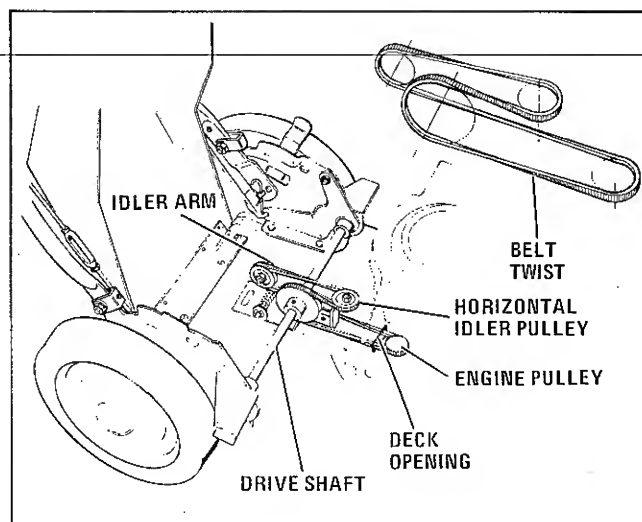

Figure 8
3. Push the idler arm forward, see Fig. 8, and lift belt above horizontal pulley.
12. Route the rear end of the belt under drive shaft and around the pulley on drive shaft and vertical idler pulley. See Fig. 8, and make certain that the twist matches the illustration.
14. Release tension on the idler arm and check again to make sure the belt twists match figure 8.